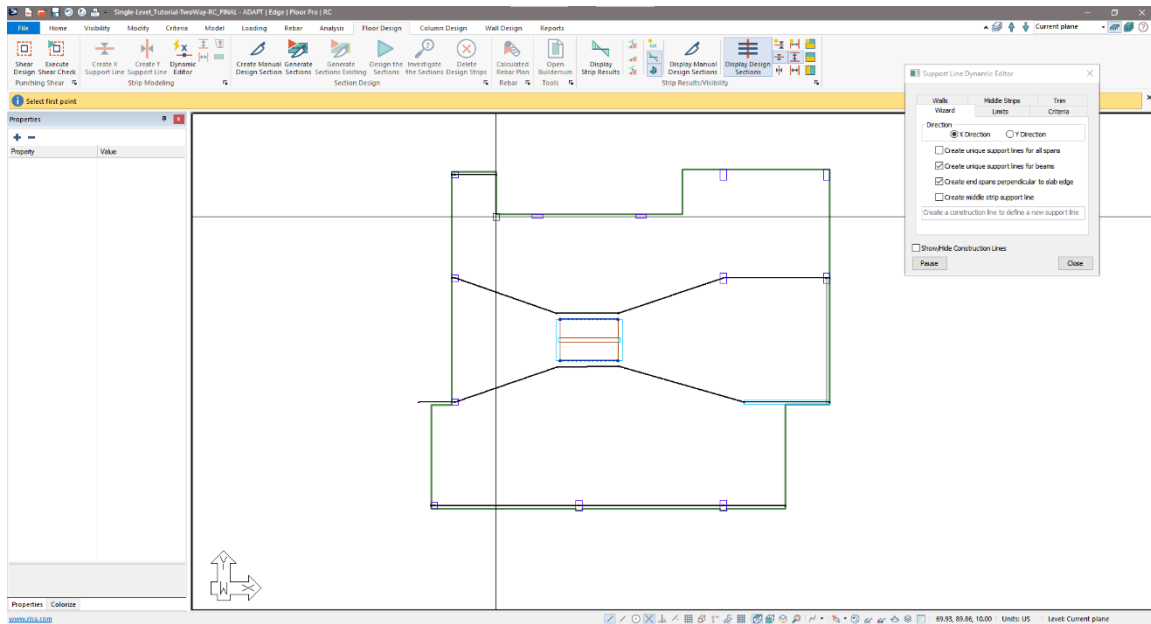

Figure 6-13
- Hover your mouse in the location shown in **FIGURE 6-13**.